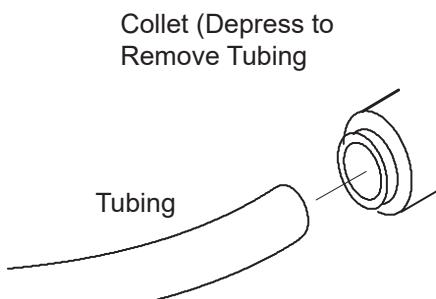

FIG. 19
1. Push the collet inward with a finger tip. See Fig. 19.
2. Continue holding collet inward while pulling the tubing out. See Fig. 19.